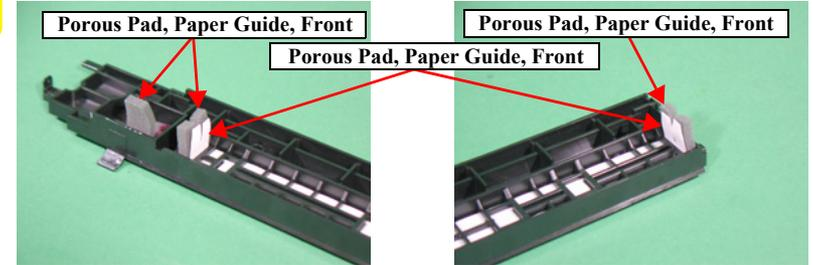

Figure 2-46. Porous Pad, Paper Guide, Front and Porous Pad, Paper Guide, Front, Support
- When Not replacing the Porous Pad, Paper Guide, Front and the Porous Pad, Paper Guide, Front Support, be careful not to touch or bend them shown in Figure2-46